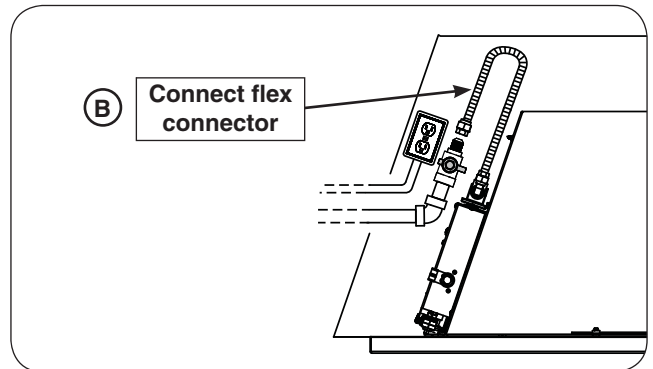

Fig. 27-2 Make gas connection
3. Connect a $\frac{3}{8}$ " C.S.A. approved stainless steel flex connector (not included) to the gas valve on the left side of the insert. Tighten securely. Then connect the open end of the flex connector to the previously plumbed gas supply / shut-off valve (see Fig. 27-2, B). Use a pipe compound resistant to all gasses on all male connections except brass to brass connections.